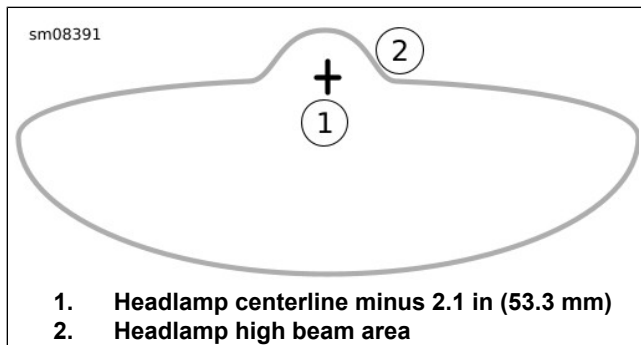

Figure 88. Headlamp Pattern: Frame-Mounted Fairing Models
- c. **LED, frame-mounted fairing:** See Figure 88. Center of hot spot at mark with headlamp set to **high beam**.
- b. See Figure 88. Adjust headlamp light beam.